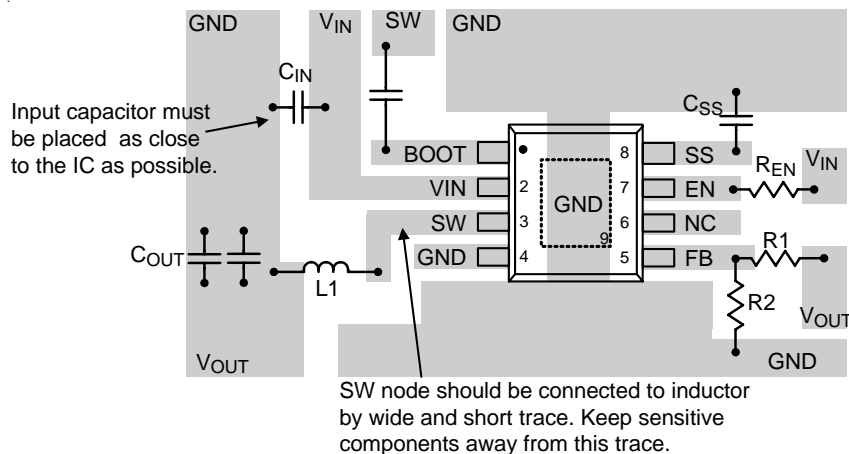

Figure 9. PCB Layout Guide
- ▶ An example of PCB layout guide is shown in Figure 9 for reference.